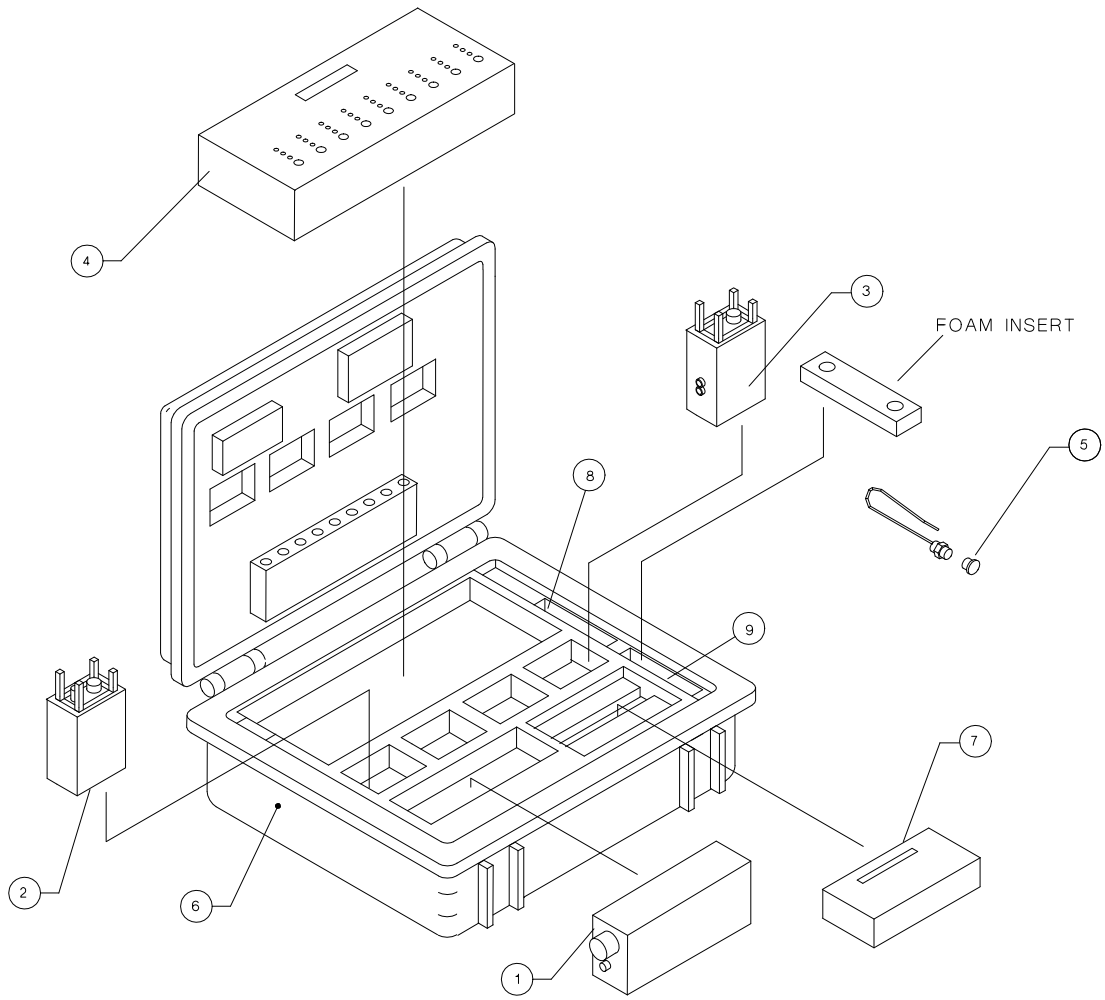

Figure 2-1 RFD 4-Remote Case System
2.1.6. The RFD System consists of the component parts in Table 2-1 and Figure 2-1.